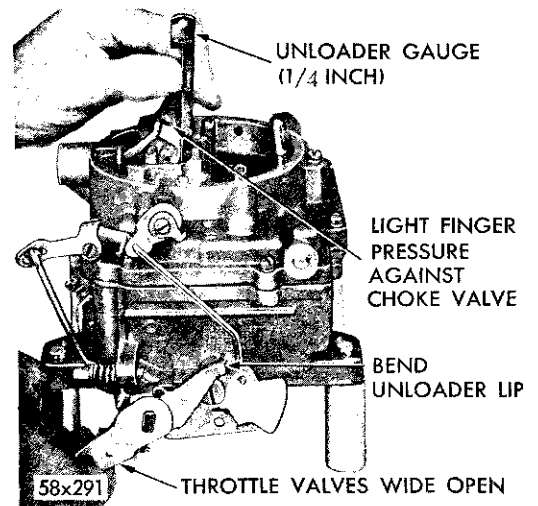

Fig. 35—Checking Choke Unloader (wide open kick) Adjustment
(1) With the throttle valves in the wide open position, it should be possible to insert Tool T109-31 (1/4 inch) gauge between the upper edge of the choke valve and the inner wall of the air horn, as shown in Figure 35.
(2) If an adjustment is necessary, bend the unloader lip on the throttle shaft lever, using Tool T109-41, until correct opening has been obtained.